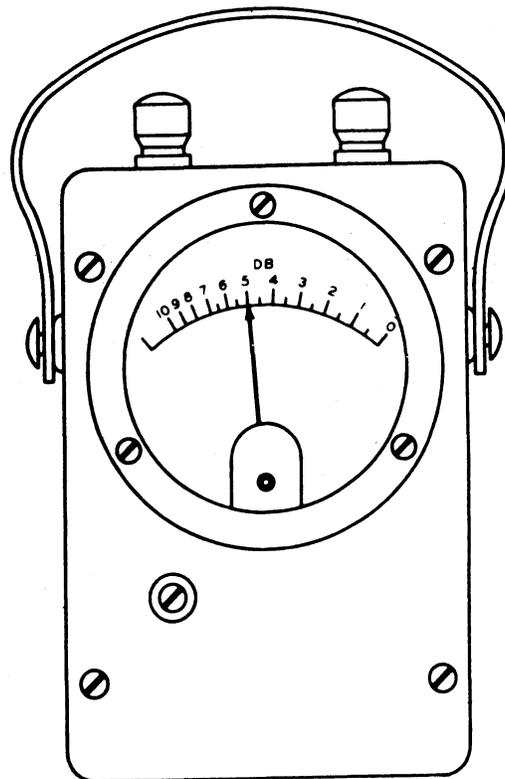
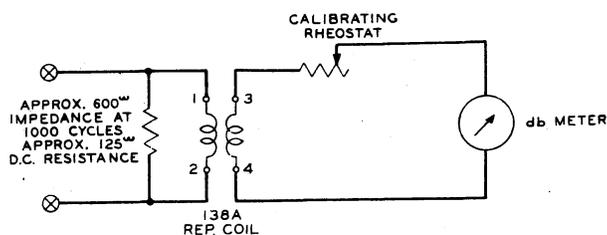

Fig. 1.
Fig. 2.
2.02 The general arrangement and face view of the set is shown in Fig. 1, and the circuit diagram is shown in Fig. 2.
2.03 The repeating coil and the shunt resistance provide a d-c. path of about 125 ohms for holding a circuit busy when necessary and an impedance of approximately 600 at a frequency of 1000 cycles per second. The rheostat, adjustable by means of a screwdriver, provides the calibrating feature of the set. The Weston Model 301 Rectifier type a-c. milliammeter is calibrated in db as shown in Fig. 1.